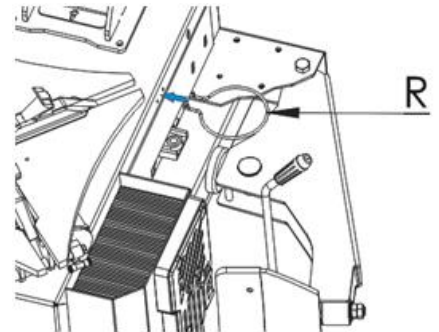

Fig. 8
- Place the holder (R, fig.8) in the holes in the frame of the machine. You can find the holder ring in the accessory box.